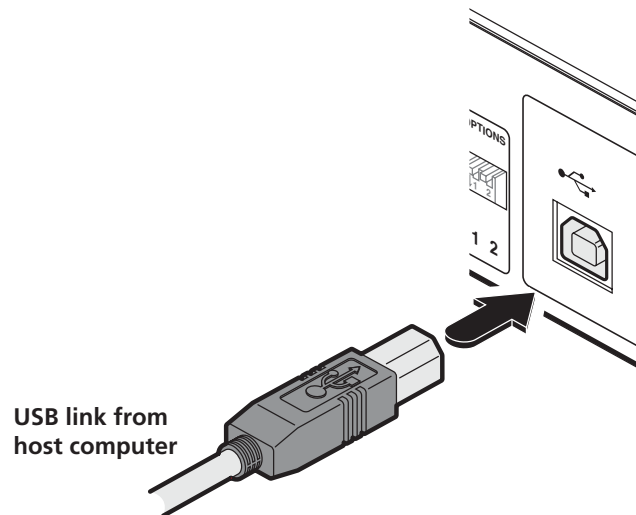

Figure 3-5. Connect the USB link cable to Local unit socket.
- 1 Connect the type B connector on a USB cable to the USB port on the Local unit rear panel. See Figure 3-5.